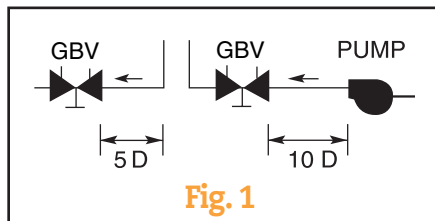

Fig. 1
**3** To ensure accuracy of measurement Circuit Balancing Valves (GBV's) should be located at least five pipe diameters downstream from any fitting and at least ten pipe diameters downstream from a pump (as illustrated in Fig. 1).